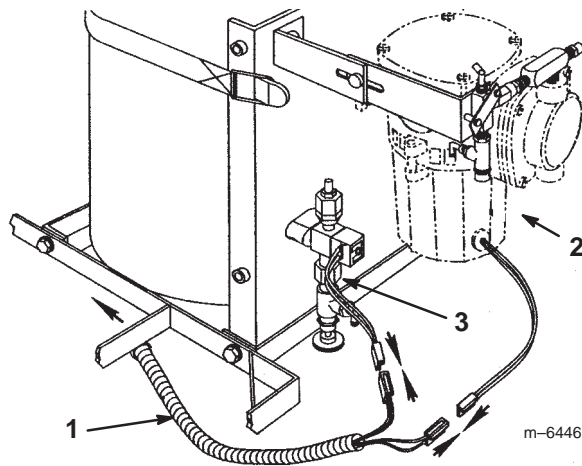

Figure 11
8. Locate the wiring harness connectors furnished with the vehicle for the foam marker and make the connections to the compressor and the solenoid located at the foam tank/compressor assembly (Fig. 11).
Note: The connectors are located along the right side frame rail strapped to the vehicle harness, where the tank/compressor is installed. Both of the plug connections are identical (Fig. 11).